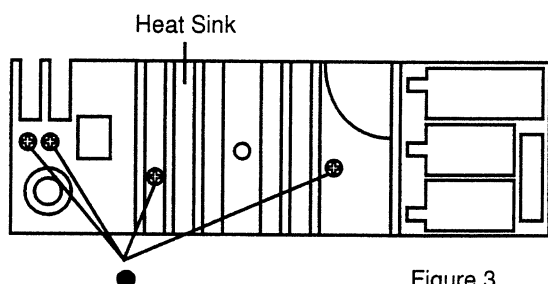

Figure 3
- (1) Remove the four screws marked "●" as shown in Figure 3.